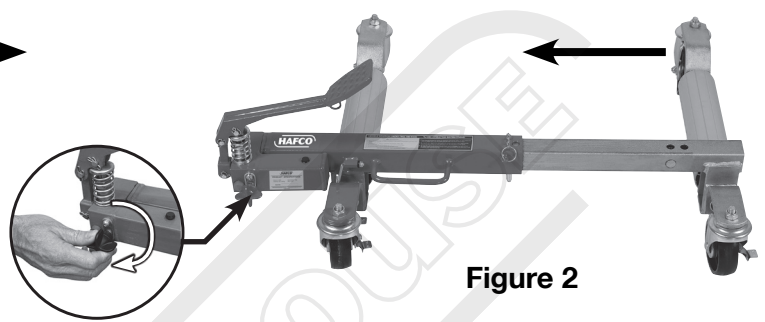

Figure 2
NOTE: The Rollers (6) will not move together when you Press up and down on the Foot Pedal (17) unless the Release Valve is turned completely to the right (see Figure 2).